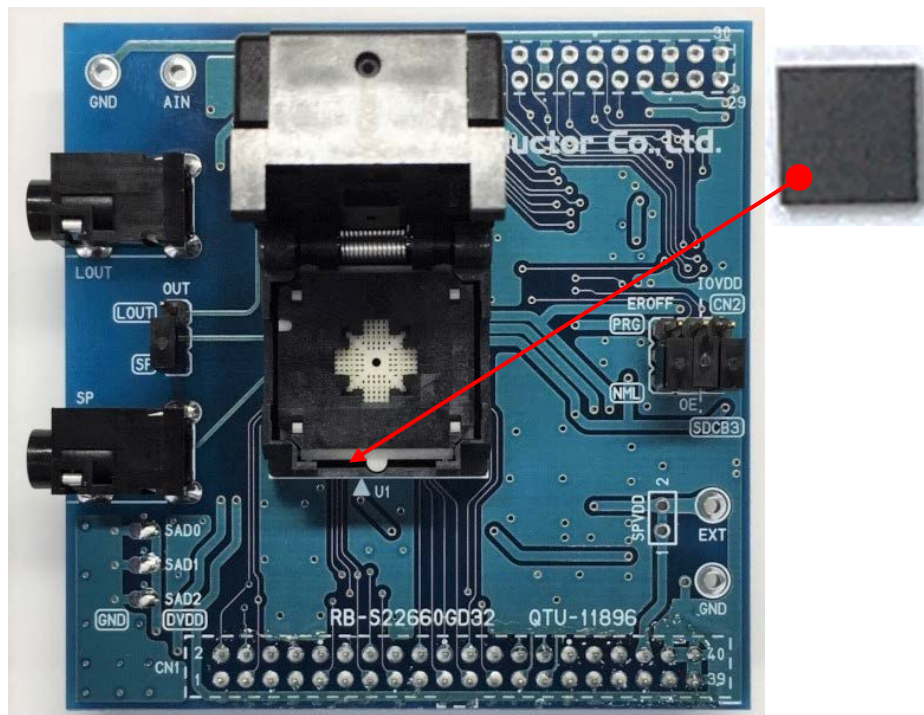

Figure 1 Outline Diagram
- Turn off the power when loading Speech Synthesis LSIs into the RB-S22660GD32. Pin 1 is the position of the board silk ▲ at the bottom left with respect to the socket opening. The Figure 1 shows the setting directions of Speech Synthesis LSIs.